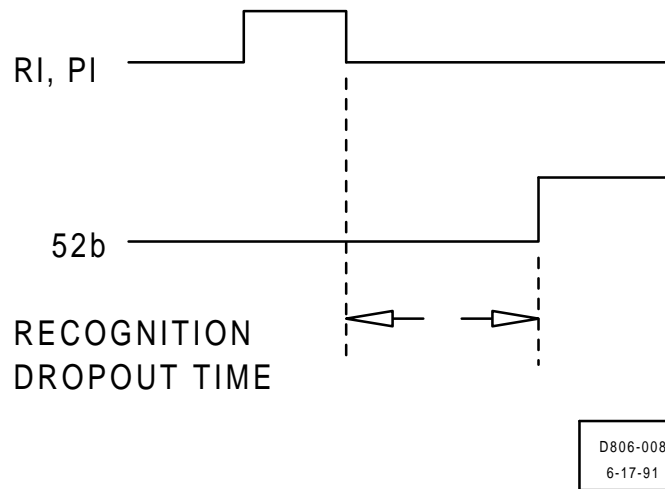

Figure 3-3. Recognition Dropout Timing
- Recognition Dropout - This function replaces the standard recognition dropout time of 17.5 milliseconds. The relay initiates a reclosing sequence if a 52b occurs within 200 milliseconds of an RI or PI. Figure 3-3 illustrates the recognition dropout timing relationship.